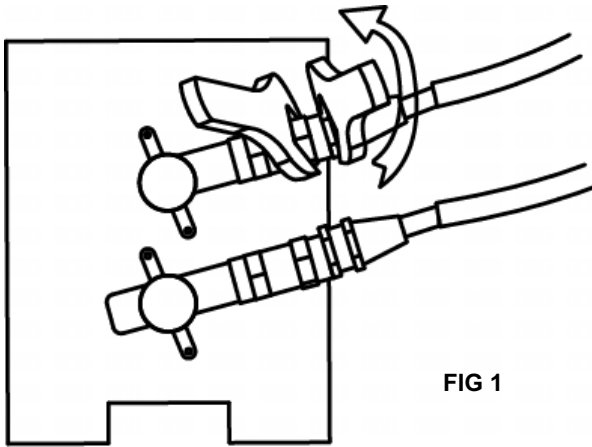

FIG 1
2. Connect the line set to the condenser. Tighten the bottom male condenser coupler first and then the top male condenser coupler using an open-ended wrench. (see figure 1)